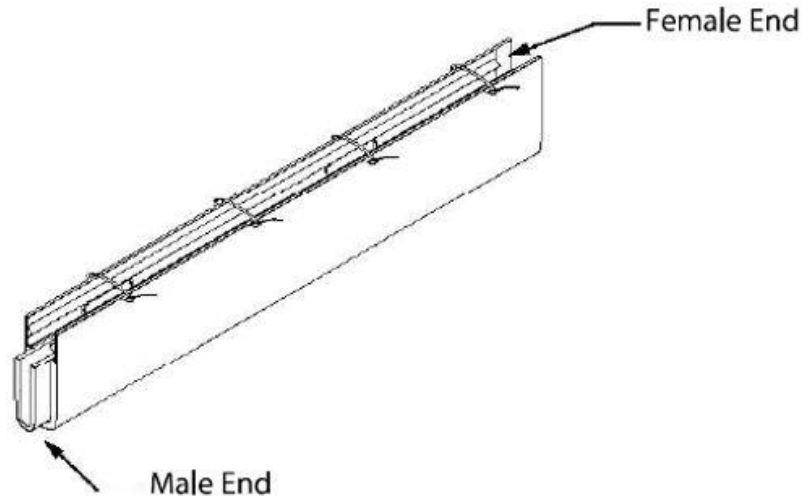

Figure 1
1. Remove product from packaging and identify both male and female ends. Straighten male end if required before installation into expansion joint. **NOTE: It is best practice to install all horizontal blankets at each floor continuously with no interruptions. Complete installation with verticals, See Figure 1.**